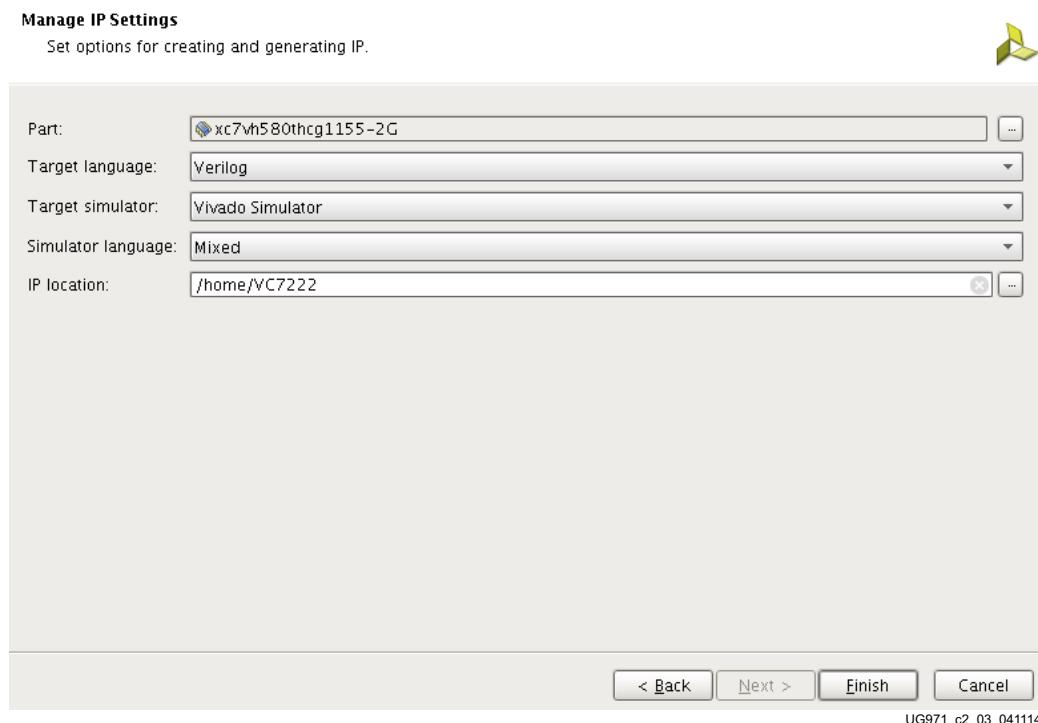
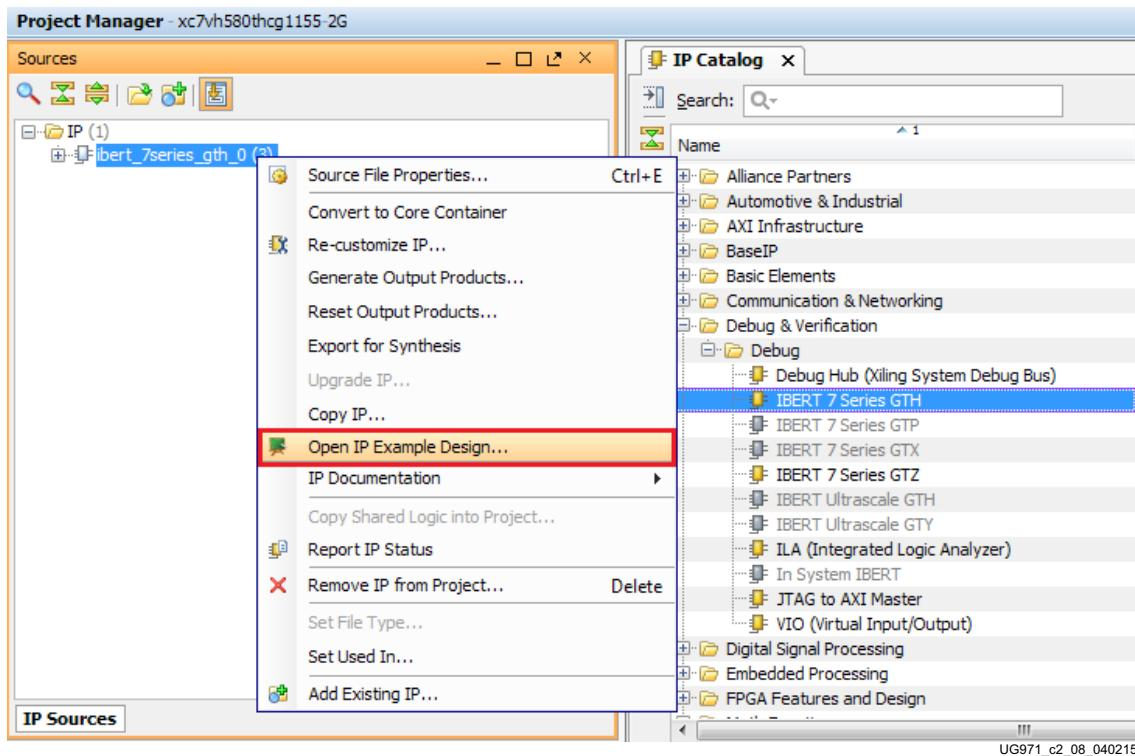

Figure 2-3: Manage IP Settings
Figure 2-8: Open IP Example Design
5. In the Manage IP Settings window, select **Verilog** for Target language, **Vivado Simulator** for Target simulator, **Mixed** for Simulator language, and a directory to save the customized IP (Figure 2-3). Click **Finish**.
10. In the Manage IP window (Figure 2-3), in the Sources window, right-click the **IBERT IP** and select **Open IP Example Design** (Figure 2-8). Specify a location to save the design, press **OK**, and the design opens in a new Vivado window.